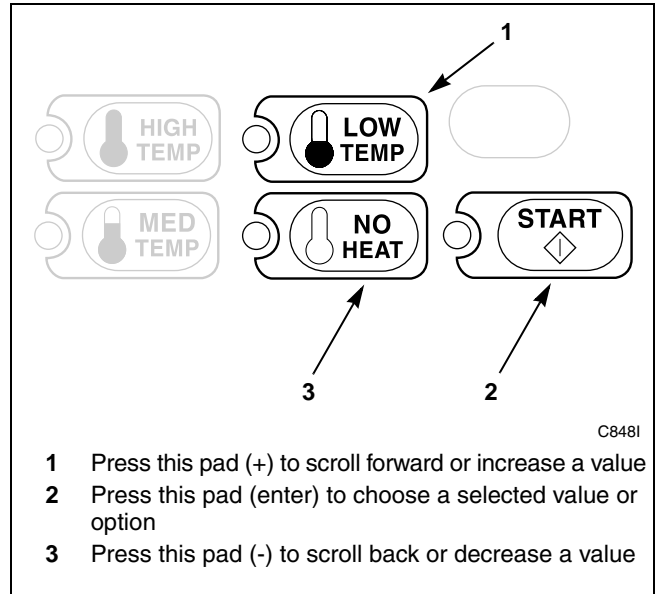

Figure 173
5. Press the LOW TEMP (+) or the NO HEAT (-) keypad to increase or decrease the current number of seconds displayed in the VFD to the desired number of seconds. Refer to *Figure 173*.
**NOTE: The Coin #2 TopOff Time can be set from zero (0) to 59 seconds.**